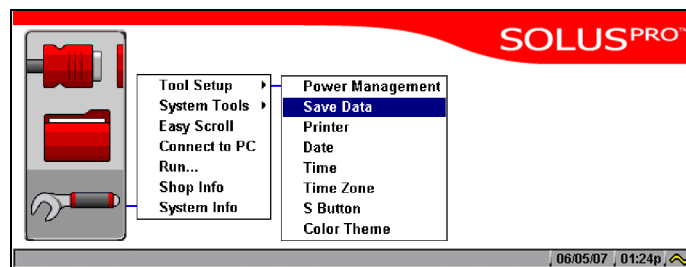

Figure 5-83 Sample Save Data dialog box
1. From the main menu, select **Utilities > Tool Setup > Save Data** (Figure 5-83).